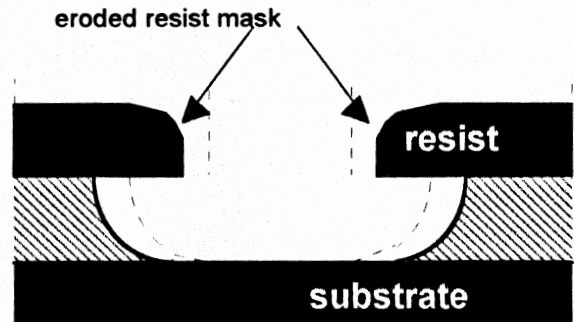

Fig. 6
- low resistivity of mask - its erosion (see Fig. 6),